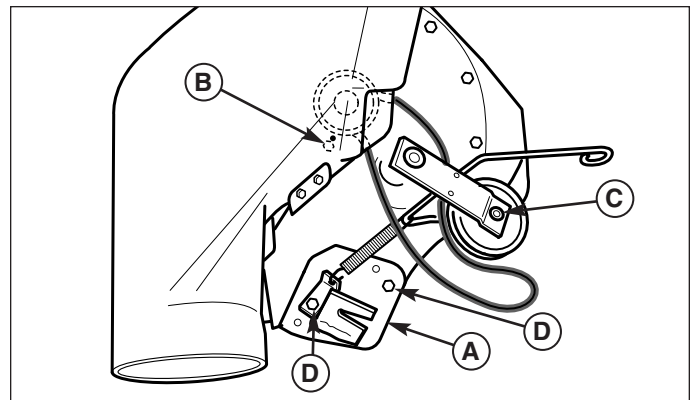

Figure 15. Belt Routing - 44" Models
2. Loosen the hardware securing the drive pulley belt guide (B, Figure 15 & 16) and the idler pulley (C)
3. Install the drive belt as shown in Figures 15 & 16.
4. Tighten the hardware securing the drive pulley belt guide (B) and idler pulley (C). The idler belt guide should be within 1/16" of the belt.
1. See Figures 15 & 16. Locate and remove the two longer capscrews used to secure the rear of the turbo housing and idler spring anchor.
2. Install the turbo mounting bracket (A) using the removed hardware. Note that the bracket is mounted in two different positions depending on the application.